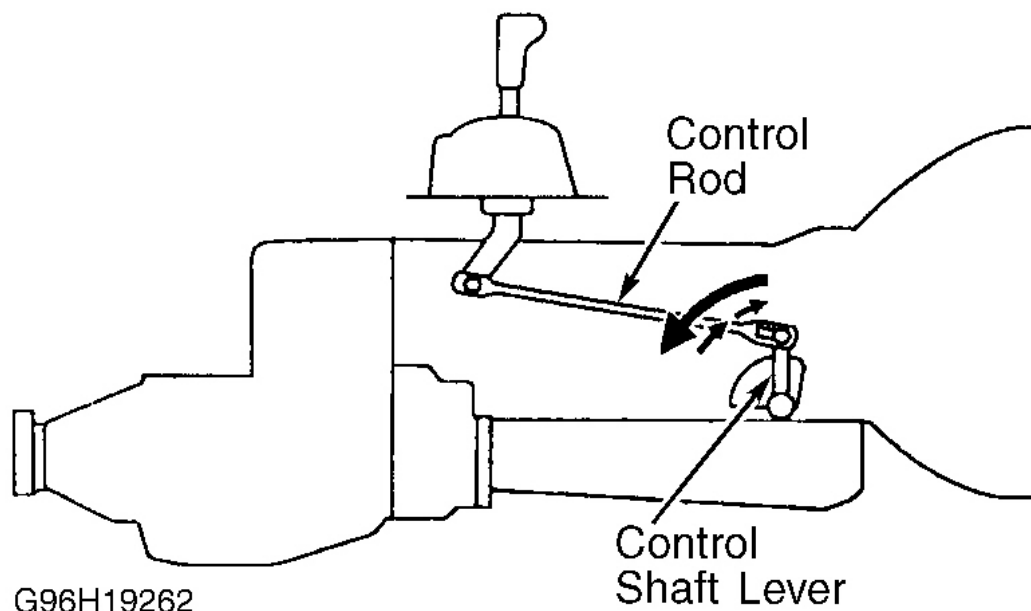

Fig. 7: Adjusting Shift Linkage (Land Cruiser)
1. Apply parking brake. Loosen control rod nut on control rod at control shaft lever on side of transmission. See **Fig. 7** . Rotate control shaft lever fully counterclockwise toward rear of vehicle to the Park position.